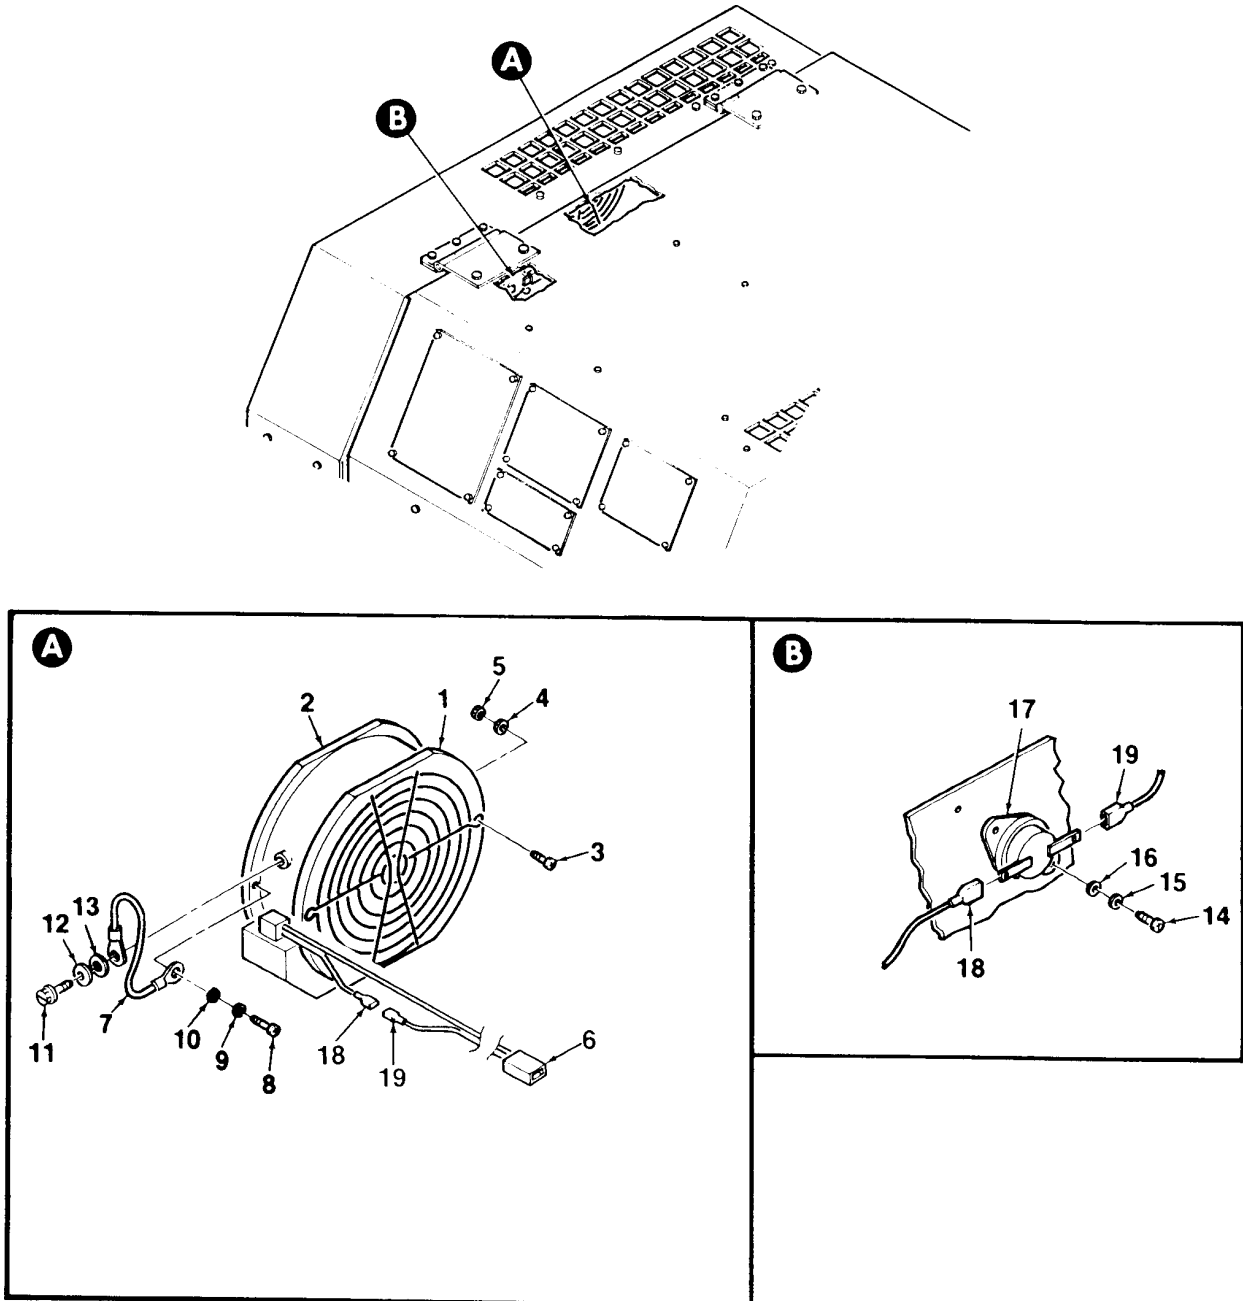

Figure 4-39. High Temperature Switch and Cooling Fan Removal
2. Tag and disconnect two electrical wires (18, 19, Figure 4-39) from high temperature switch S20 (17) (110° F). Remove temperature switch (17) from rear wall of enclosure by removing two screws (14), lockwashers (15), and washers (16).
3. Disconnect fan power cord (6) from generator set wiring harness.
4. Remove high temperature fan (2) from rear wall of enclosure by removing two screws (8), lockwashers (9) and washers (10).